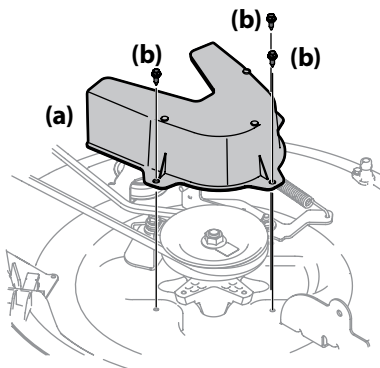
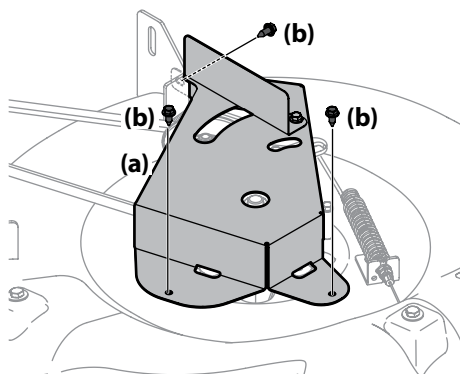

Figure 4-9
Figure 4-10
- Remove the deck belt cover (a) by removing the three hex bolts (b) that secure it. See Figure 4-9 for 30" decks and Figure 4-10 for 24" decks.